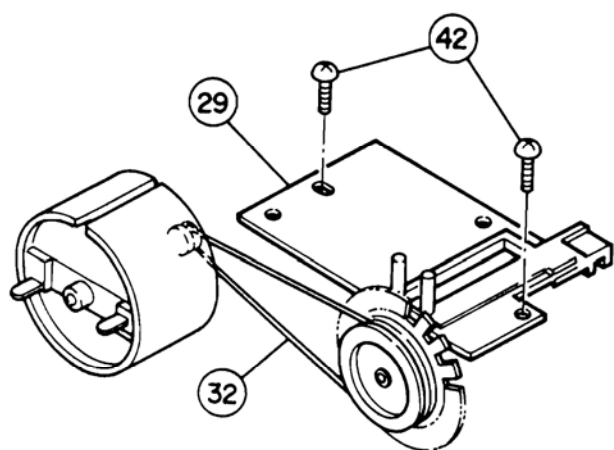

Figure 4
**(C) Removal of Bracket Assembly (17)**
- Remove belt (32), take out the 2 screws (42) that fasten the Bearing Assembly (29), and remove the Bearing Assembly as shown in Figure 4.